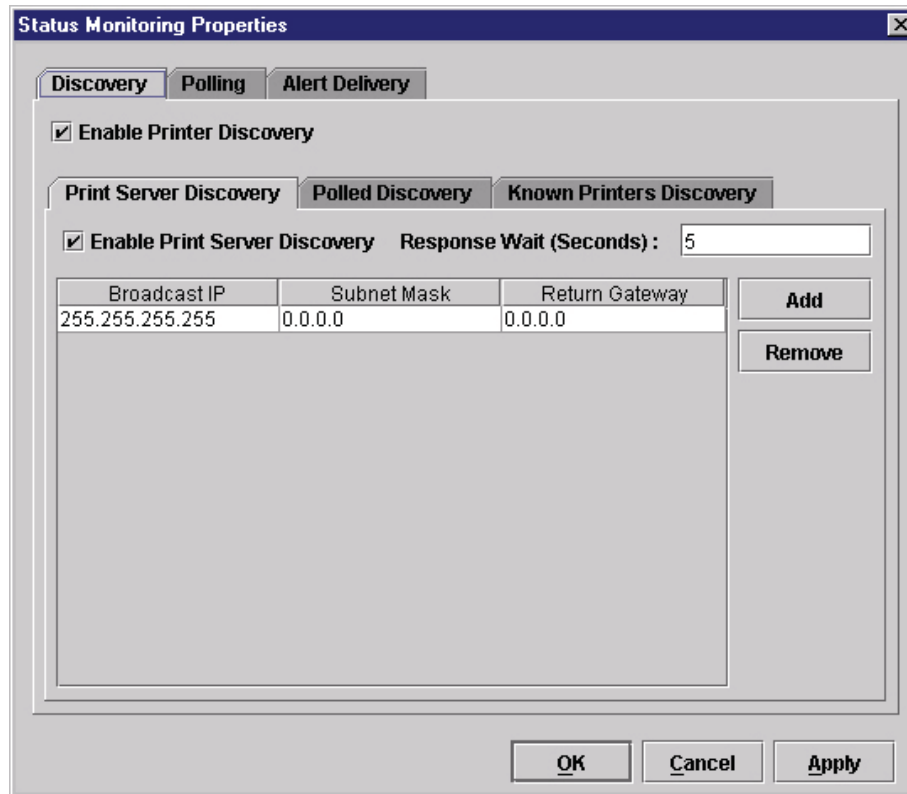

Figure 26 Status Monitoring Properties: Discovery Tab – Print Server Discovery Sub-Tab
1. **Print Server Discovery:** This option allows you to discover all PrintNet® printers on a subnet. To enable the option, check the **Enable Print Server Discovery** check box in the Status Monitoring Properties dialog box (see Figure 26), then click **Apply** or **OK**.